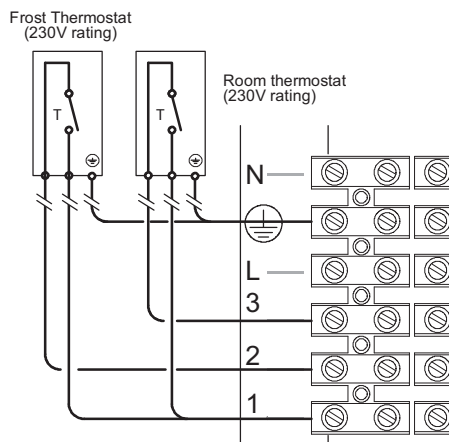
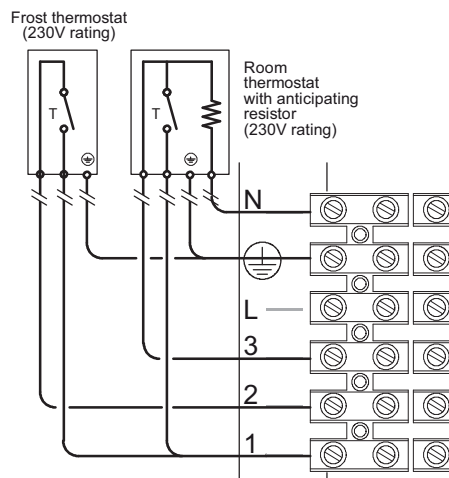

Fig. 6.23
Fig. 6.24
- Connect the frost thermostat between terminals 1 and 2 as shown in Fig. 6.23 or Fig. 6.24.